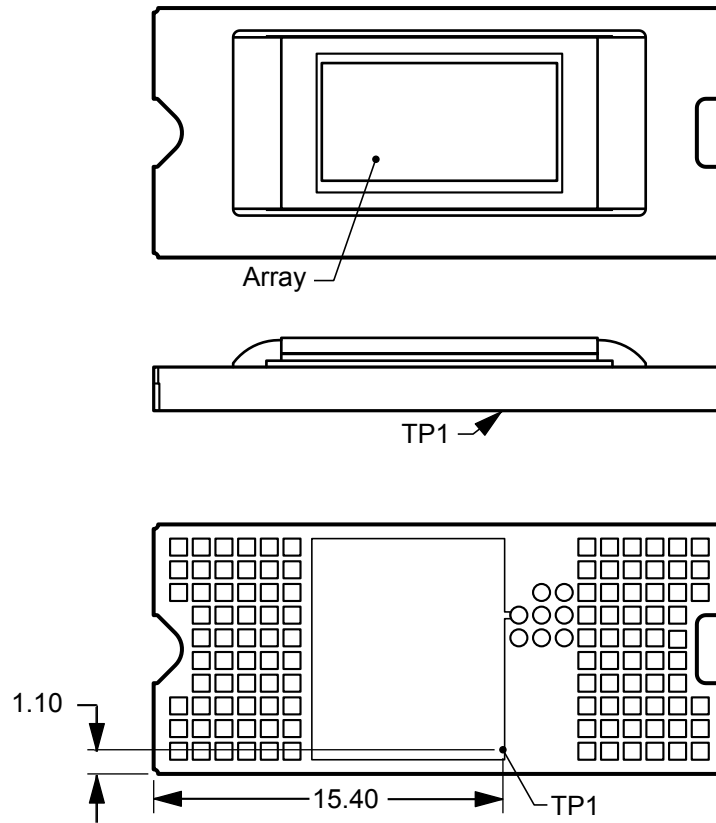

Figure 6-4. DMD Thermal Test Points
The active array temperature can be computed analytically from the thermal measurement point on the outside of the package, the package thermal resistance, the electrical power, and the illumination heat load. The following equations provide the relationship between the array temperature and the reference ceramic temperature (TP1) in Figure 6-4:
- T_{CERAMIC} = measured ceramic temperature at the TP1 location in Figure 6-4 (°C)
- Q_{ARRAY} = total power (electrical plus absorbed) on the DMD array (W)
- $Q_{\text{ELECTRICAL}}$ = nominal electrical power dissipation by the DMD (W)
- $Q_{\text{ILLUMINATION}}$ = absorbed illumination heat load (W)
- Q_{INCIDENT} = incident power on the DMD (W)